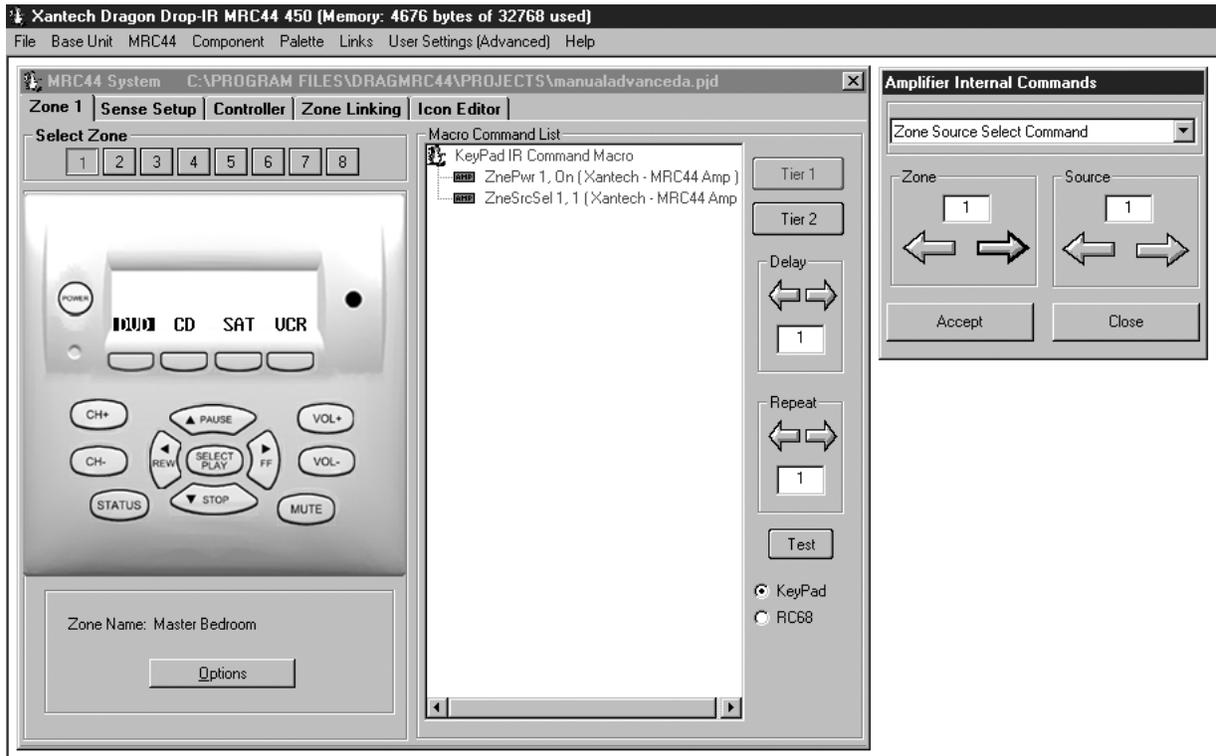

Figure 23 – Internal Amplifier Command Window
In the MRC44 System Window Menu, click on Palette, and select “MRC44 AMPLIFIER COMMAND GENERATOR” (F6), a special palette of MRC44 Internal Commands will appear, as shown in **Figure 23**.
5. Two Parameter boxes will appear as shown in **Figure 23**, to set the action of the command. (e.g. Zone 1 and Source 1).